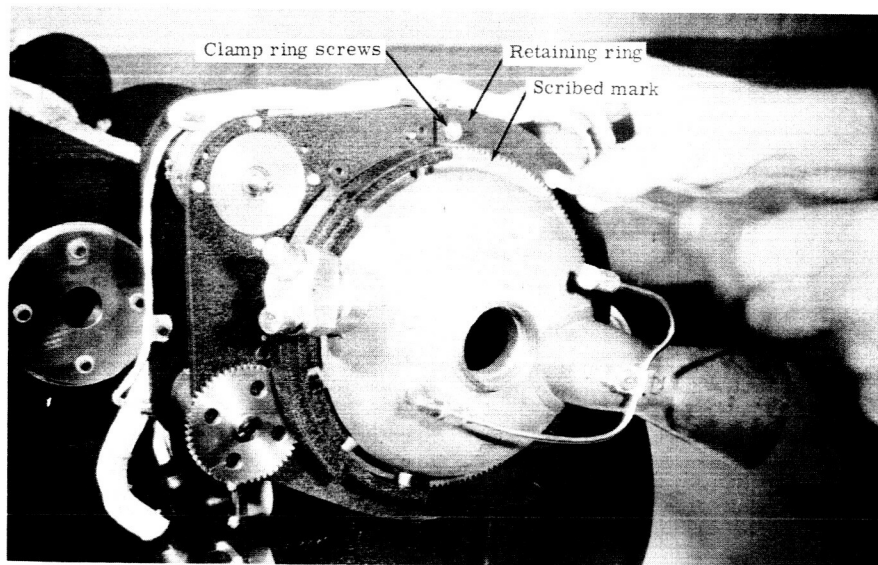
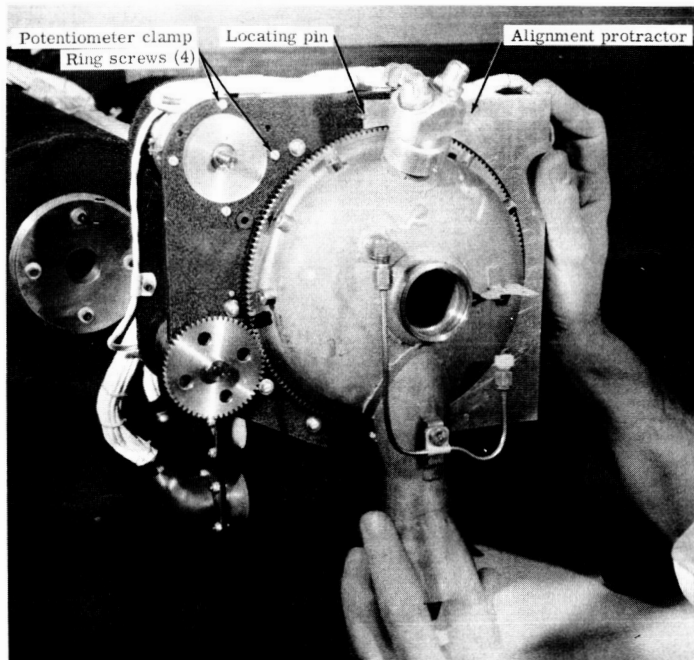

Figure 2-9. Installation of retaining ring.
Figure 2-10. Setting control rocket at null position with alignment protractor.
- f. Install the retaining ring. Install rubber grommets and screws (apply Loctite to all screws) with flat washers. (Screw P/N—AN116916, Washer P/N—AN122577). See Figure 2-9.
- c. With the special alignment protractor, align the rocket to null position as shown in Figure 2-10. The nozzle closures have been scribed at 90° from nozzle center line. See Figure 2-9.
- a. Loosen the four screws which secure the feedback potentiometer clamp ring. See Figure 2-10.